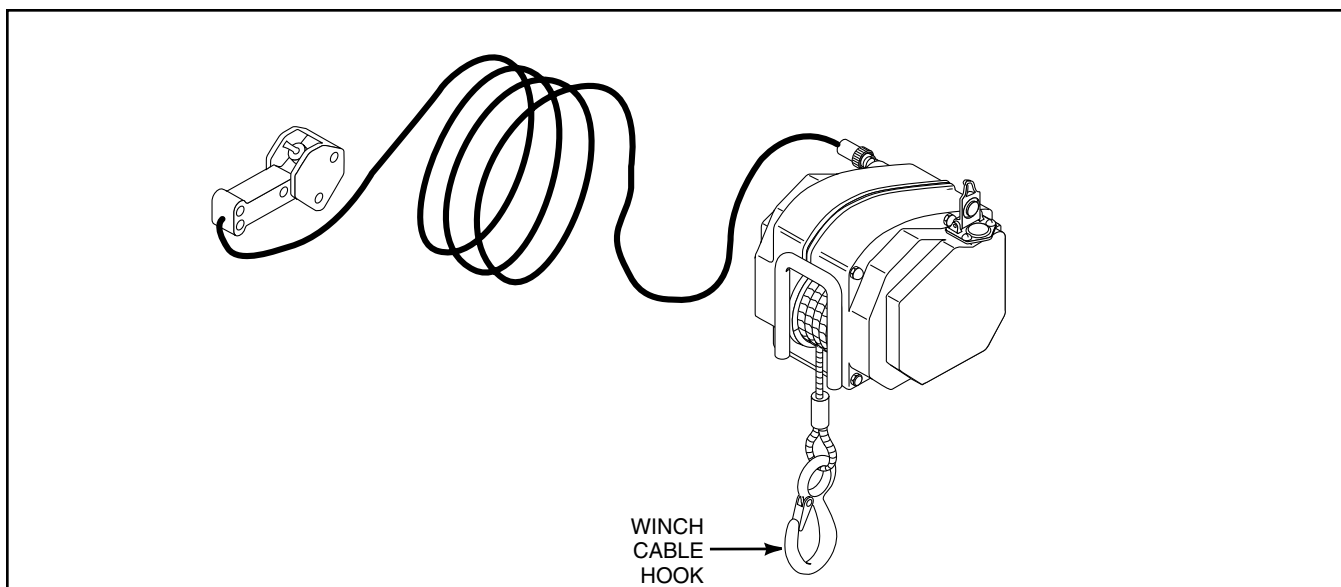

Figure 2 Operation Components
To unload the boat, refer to Figure 2 and follow the outlined procedures.
- Attach the winch cable hook to the bow eye on the boat (See Figure 2).